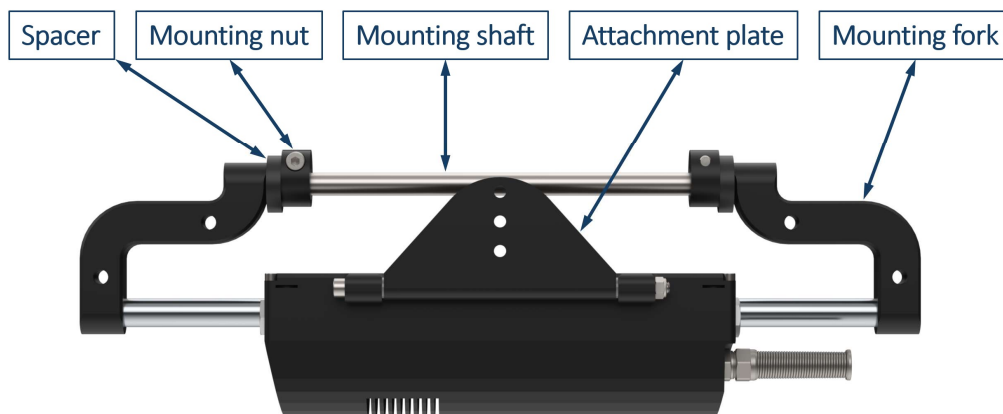

Figure 4: Components used in installation of steering actuator.
1. The mounting nuts are screwed onto the outboard motors tilt axis on the transom bracket. (*Components for installation is shown in figure 4*)